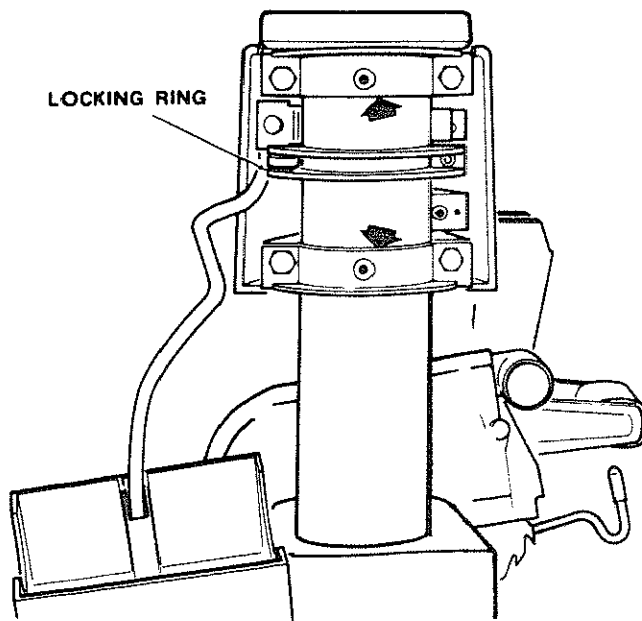

Fig. 121 - Bearing Points Where Arm Attaches to Column Tube
- Apply a few drops of oil along the *swivel index pin* and the *bevel index pin* only if the pins have a tendency to stick. Swivel to in-rip or out-rip for easy access to the *swivel index pin*. Bevel to 45° and *bevel index pin* can be easily accessed behind the yoke as illustrated. (Figure 121)
•Lubricate the bearing points where the *arm* attaches to the *column tube*. With a #2 Phillips screwdriver remove two screws and the rear arm cover for access to these points. Be careful not to get lubricant on the *locking rings* as this will adversely affect the miter locking function. (Figure 121)